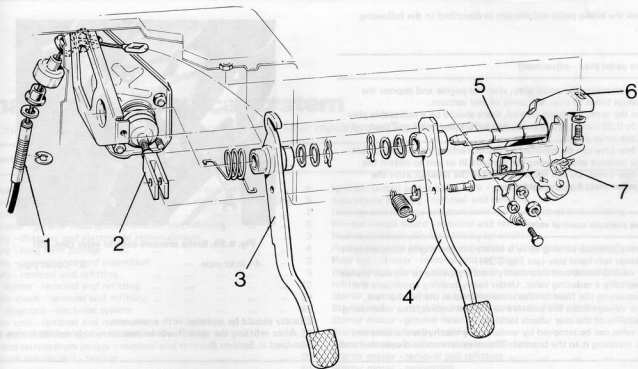

Fig. 9.26. Brake and clutch pedal assembly (Sec. 17)
- 6 Refer to Fig. 9.26 and slide the clutch pedal and shims off the shaft.